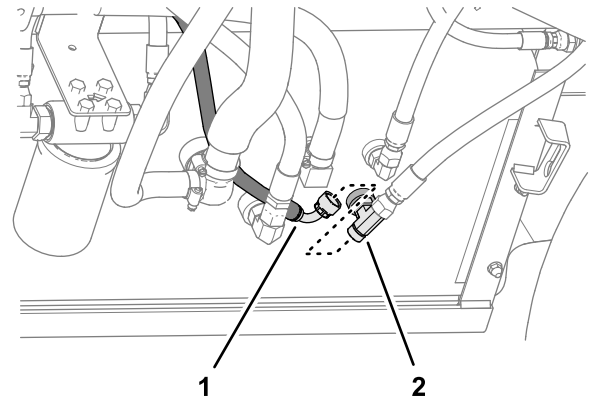

**Figure 131**
5. Remove the O-ring in the face of the T-fitting of the hydraulic tank (Figure 131).
6. Install a new O-ring 12.4/1.8 mm (0.489/0.070 inch) into the groove of the T-fitting (Figure 131).